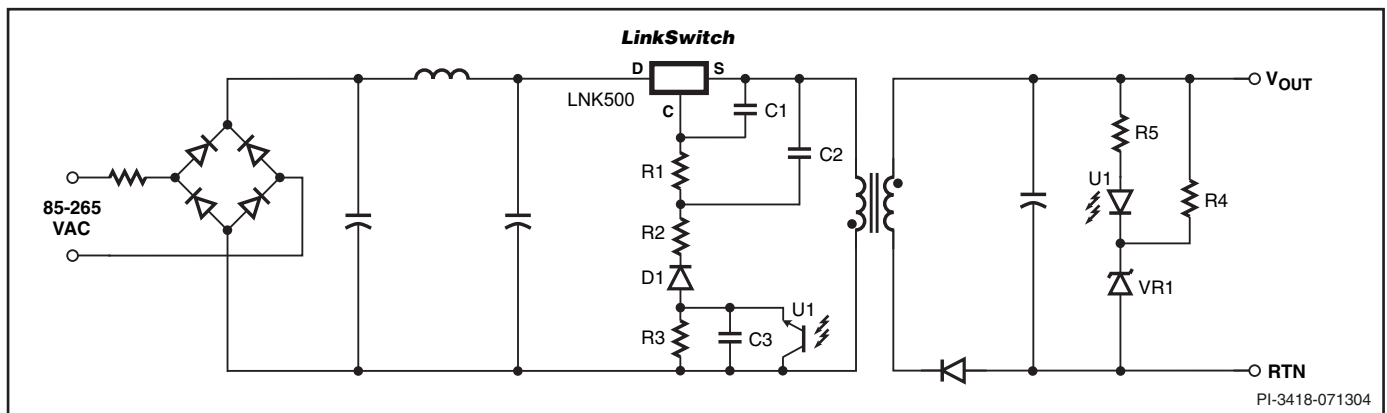

Figure 6. Power Supply Outline Schematic with Optocoupler Feedback.
Figure 6 shows a typical power supply outline schematic using *LinkSwitch* with optocoupler feedback to improve output voltage regulation. On the primary side, the schematic differs
The feedback configuration in Figure 6 is simply a resistive divider made up of R1 and R3 with D1, R2, C1 and C2 rectifying, filtering and smoothing the primary winding voltage signal. The optocoupler therefore effectively adjusts the resistor divider ratio to control the DC voltage across R1 and therefore, the feedback current received by the *LinkSwitch* CONTROL pin.
When the power supply operates in the constant current (CC) region, for example when charging a battery, the output voltage is below the voltage feedback threshold defined by U1 and VR1 and the optocoupler is fully off. In this region, the circuit behaves exactly as previously described with reference to Figure 5 where the reflected voltage increases with increasing output voltage and the *LinkSwitch* internal current limit is adjusted to provide an approximate CC output characteristic. Note that for similar output characteristics in the CC region, the value of R1 in Figure 5 will be equal to the value of R1 + R3 in Figure 6.
The extent to which R3 can be increased is limited by opto transistor voltage and dissipation ratings and should be fully tested before finalizing a design. The values of C2 and C3 are less important other than to make sure they are large enough to have very little influence on the impedance of the voltage division circuit set up by R1, R3 and U1 at the switching frequency. Normally, the values of C2 and C3 in Figure 6 are chosen equal to the value of C2 in Figure 5, though the voltage rating may be reduced depending on the relative values of R1 and R2 discussed above. See Applications section for typical values of components.
The output voltage load variation can be improved across the whole load range by adding an optocoupler and secondary reference (Figure 6). The secondary reference is designed to only provide feedback above the normal peak power point voltage to maintain the correct constant current characteristic.